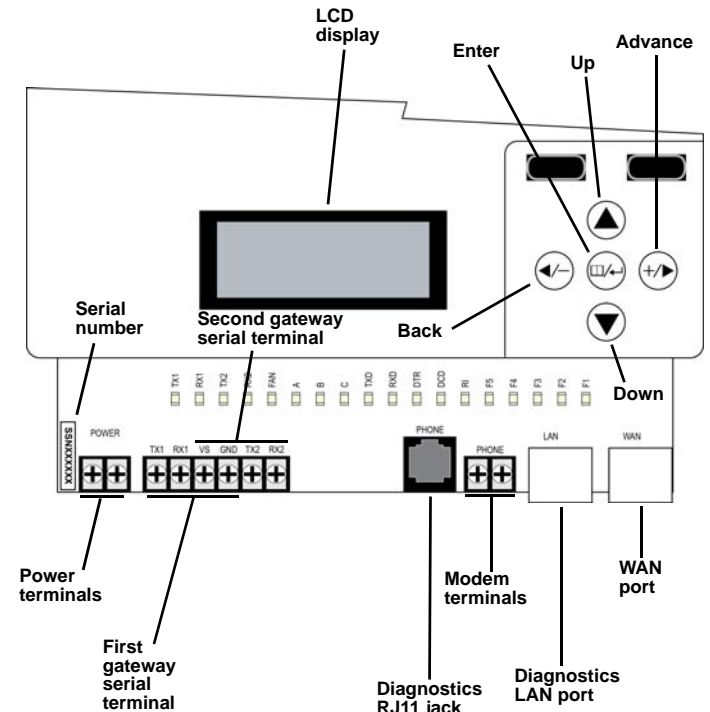

Figure 3 RDL8500 internal components
4. If you will be using an IP connection, connect one end of an unshielded Cat 5e Ethernet patch cable to the RDL8500 WAN port (Figure 3); if you will be using a phone line, skip to step 7.